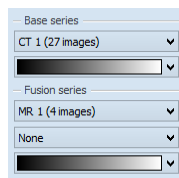

Figure 273 – Series and color map selection
1. Click the **Base series** combo box to select the primary series (see Figure 273).